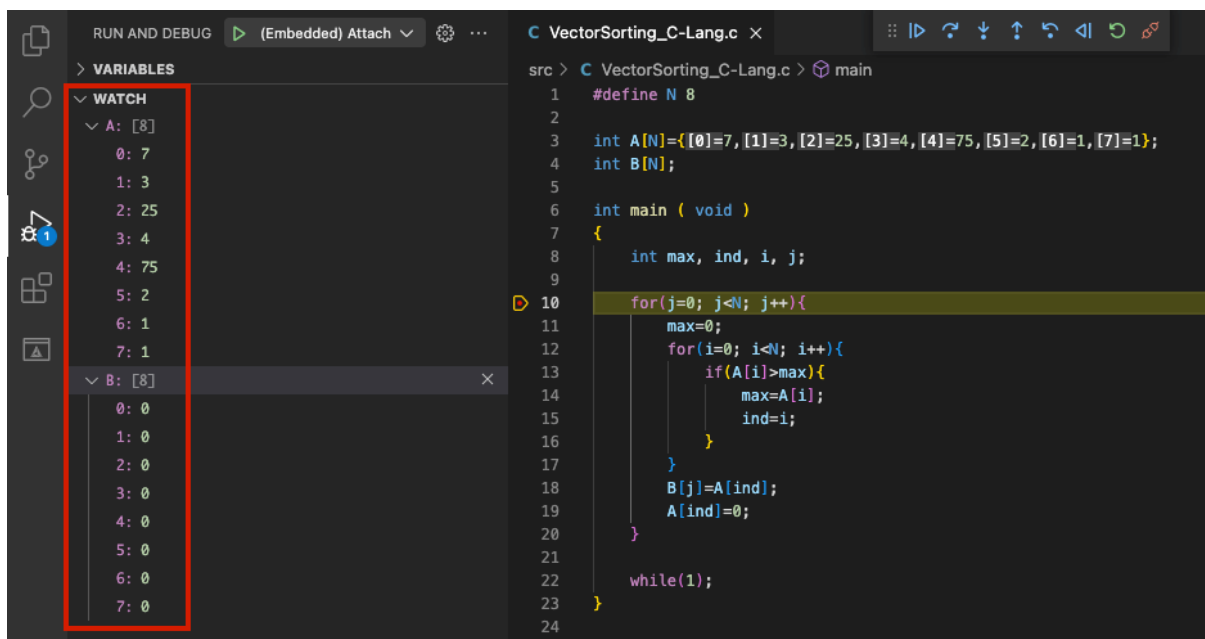

Figure 59. Execution stopped at the beginning of the program
5. Place a breakpoint at line 10 and start debugging. The execution will stop at the beginning of the `for` loop (Figure 59). In the WATCH section in the Debugger Side Bar, click the + icon and add the variable A. Do the same for variable B. Expand these to analyse the values of the A and B arrays (highlighted in red in Figure 59).